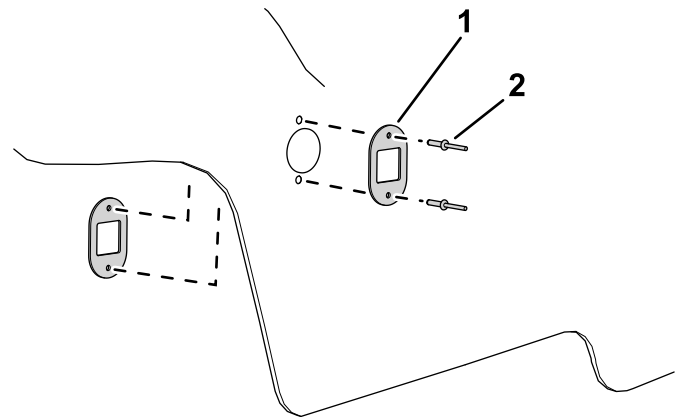

Figure 4
5. Use 2 rivets (1/2 inch) to secure the latch plates to the hood (Figure 4).